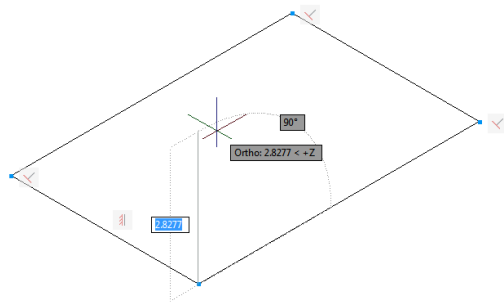

Figure 2-40 Tooltip displayed on moving the cursor along the positive Z axis
6. From the start point of the model, move the cursor along the positive Z axis. You will notice that the tooltip displays **Ortho: (current length) < +Z**, as shown in Figure 2-40.